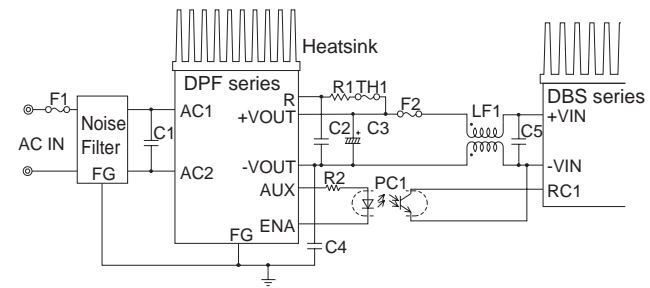

Fig.3.1 Standard connection method
To use DPF1000, connection shown in Fig.3.1 and outside attached components are required. Through this connection, DC output voltage can be obtained from AC input voltage.
- For connecting the DBS/DAS series, see Fig.3.1.